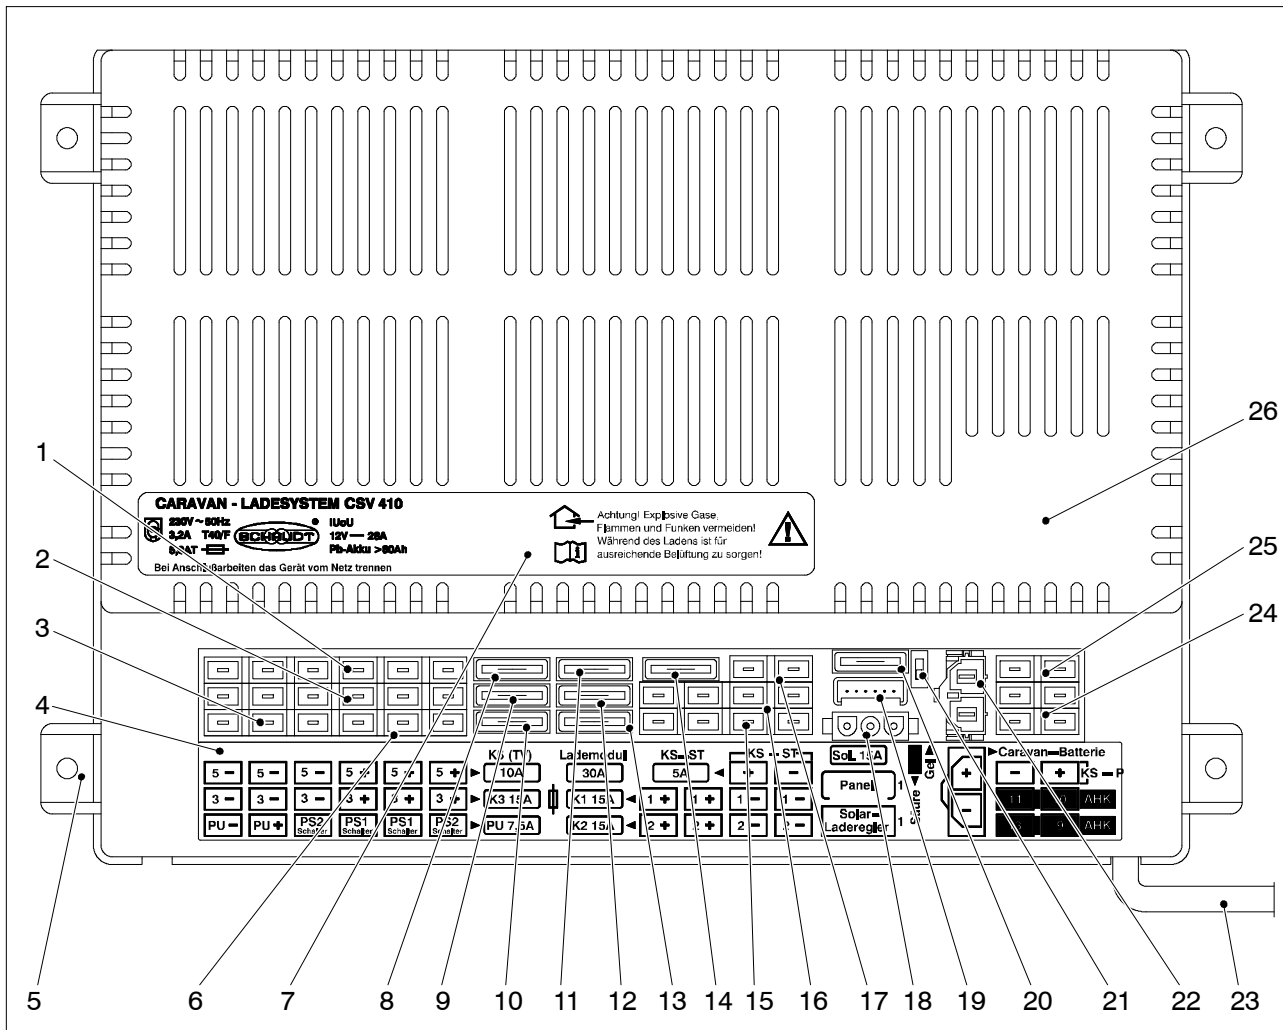

Fig. 2 Front view of CSV 410 caravan charging system
- Ensure that the battery selector switch (Fig. 2, Pos. 21) is set to the correct position for the battery installed.
**12V main switch** ➤ Press rocker switch  (12V main switch) so that it is briefly in the "I" position (ON).
- Move the battery selector switch (Fig. 2, Pos. 21) to the correct position using a thin object (e.g. a ballpoint pen):